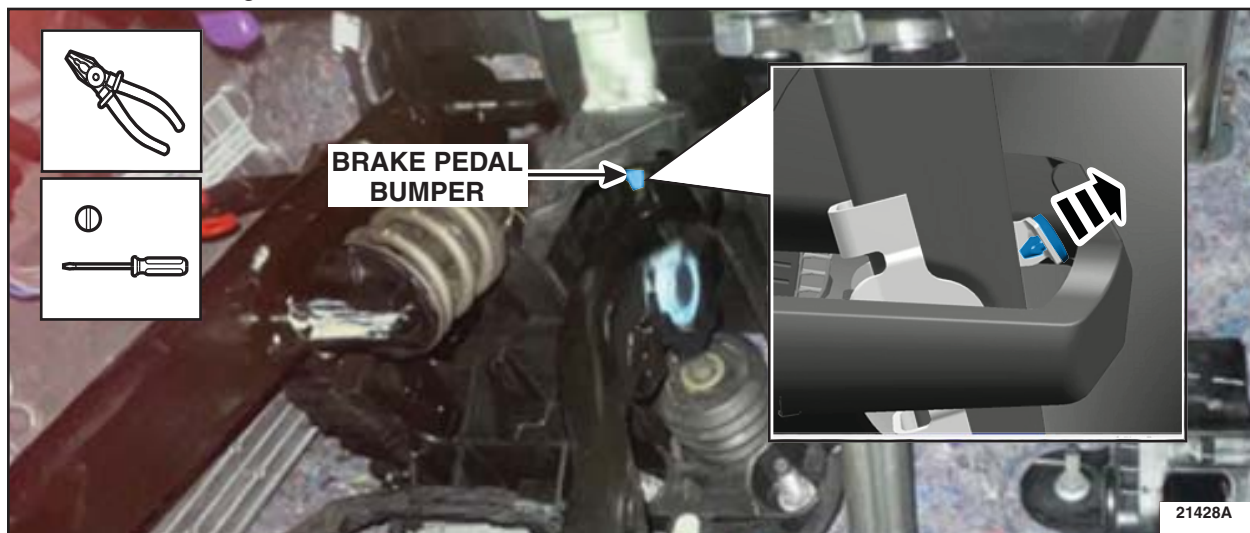

FIGURE 1
1. Remove the brake pedal bumper by pushing down on the brake pedal and using pliers or a flat blade screw driver to pull the bumper out. If needed push in the brake switch plunger back for more clearance. See Figure 1.